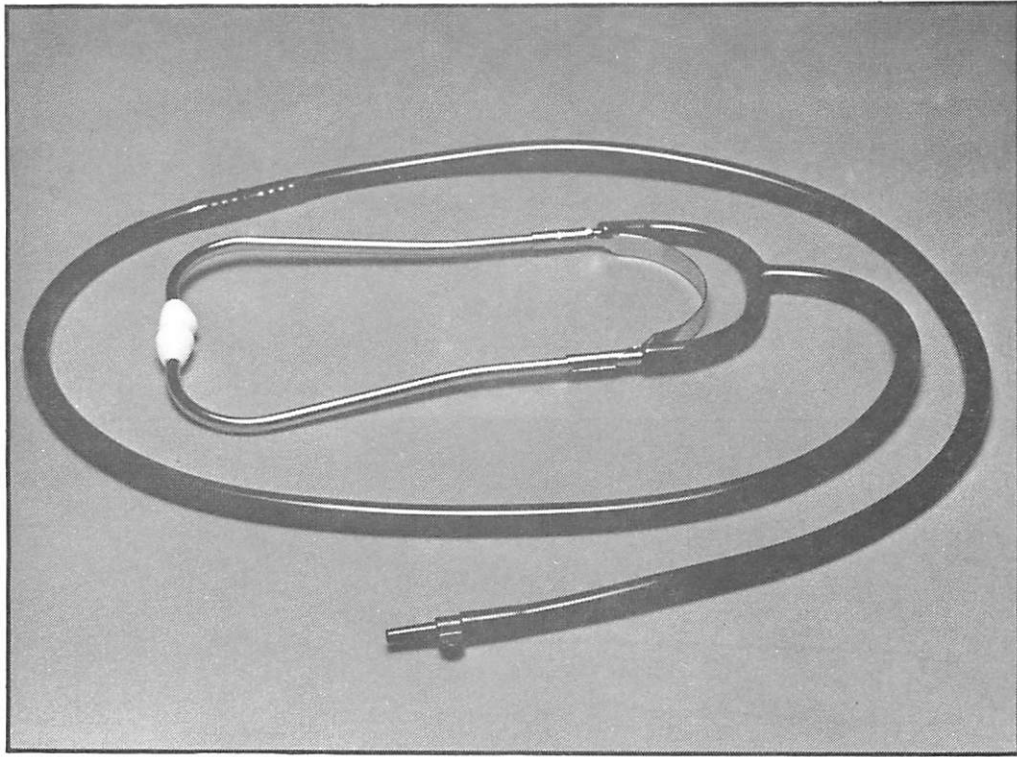

Figure 1-2. Stethoscope -- Model 1107
- a. Stethoscope - Model 1107 (figure 1-2). A stethoscope equipped with a standard luer connector can be connected to the VITAL•CHECK monitor to monitor Korotkoff sounds detected by the instrument as it takes a BP measurement.